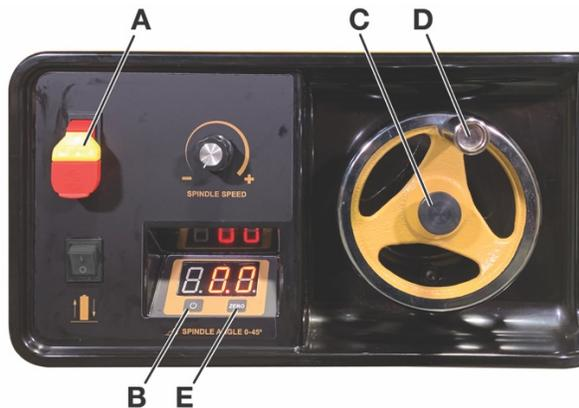

Figure 8-1: Control Panel
**⚠WARNING** Remove the safety key (A, Figure 8-1) from the power switch to guard against accidental startup while making adjustments. For safety key information, see Section 9.4, Figure 9-3.
Refer to Figures 8-1 and 8-4.
Refer to Figures 8-1 through 8-4.